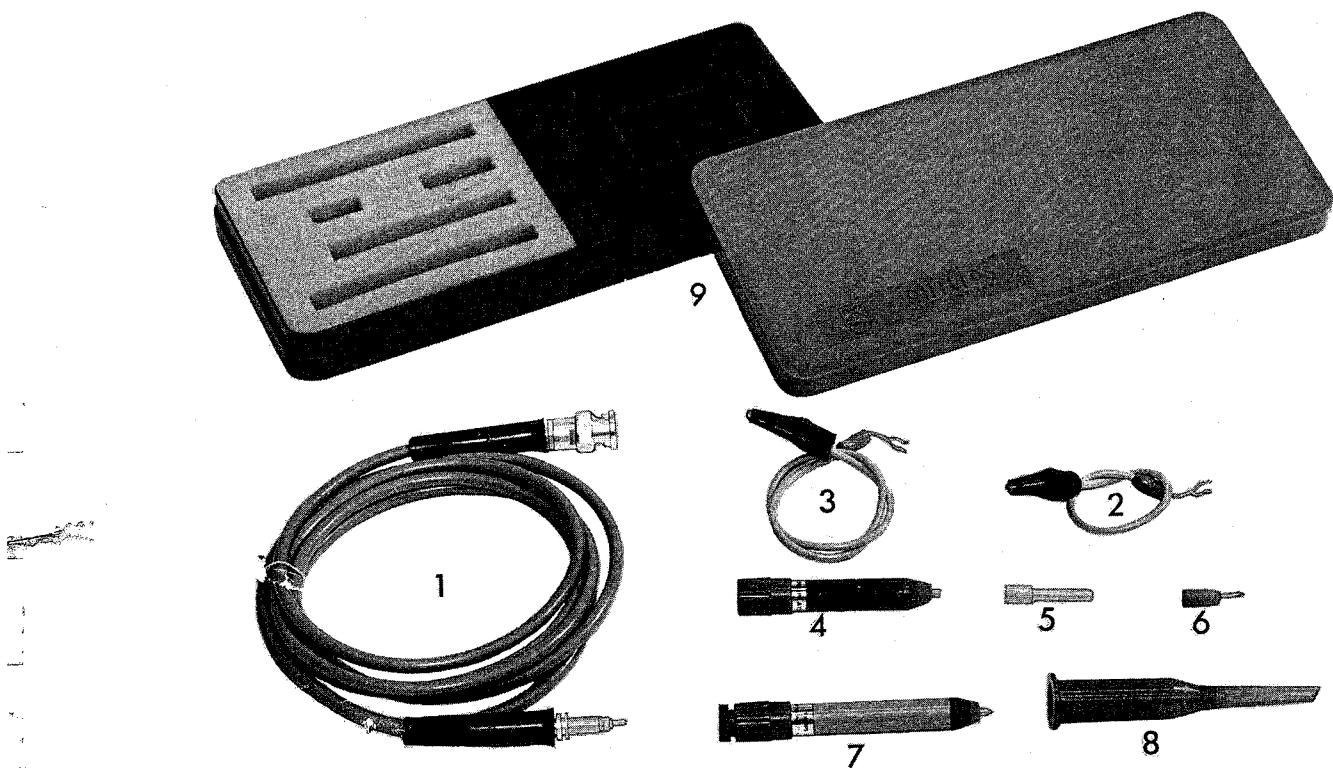

Fig. 3.18. Attenuator probe set PM9326 (PM 9327)
3.5.1. Attenuator probe sets PM 9326 and PM 9327 (Fig. 3.18)
| 1 probe cable | Fig. 3.18, item 1 |
| 1 earth lead 15 cm | Fig. 3.18, item 2 |
| 1 earth lead 30 cm | Fig. 3.18, item 3 |
| 1 measuring probe 1:1 (black) | Fig. 3.18, item 4 |
| 1 test pin | Fig. 3.18, item 5 |
| 1 test hook | Fig. 3.18, item 6 |
| 1 attenuator probe 1:10 (grey) | Fig. 3.18, item 7 |
| 1 test clip | Fig. 3.18, item 8 |
| 1 box | Fig. 3.18, item 9 |